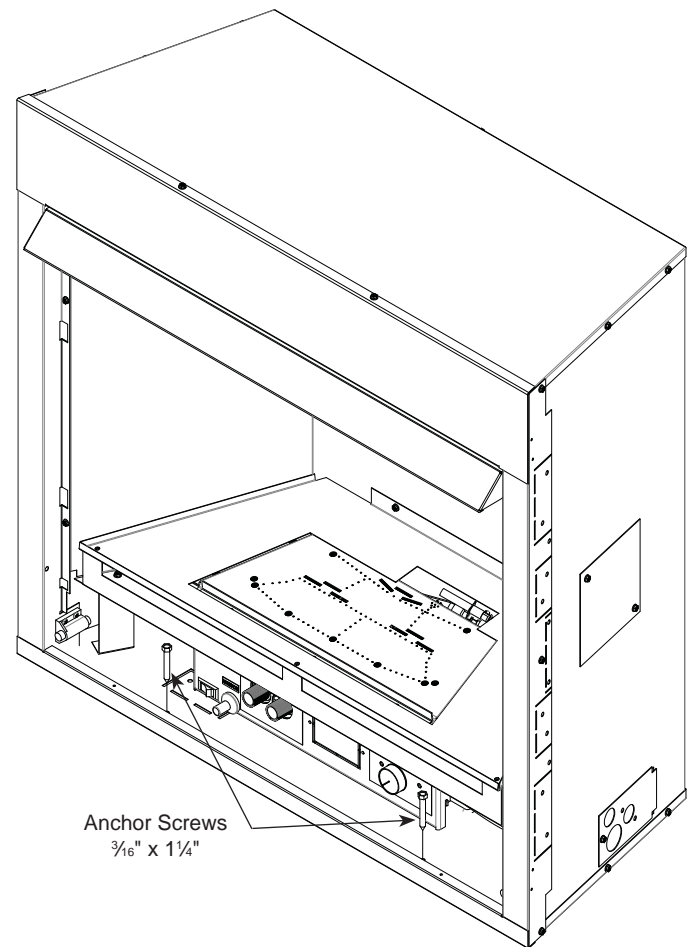

Figure 9 -
2. Secure the firebox with two anchoring screws ($\frac{3}{16}$ " x $1\frac{1}{4}$ " length) supplied with the fireplace system. *Figure 9*